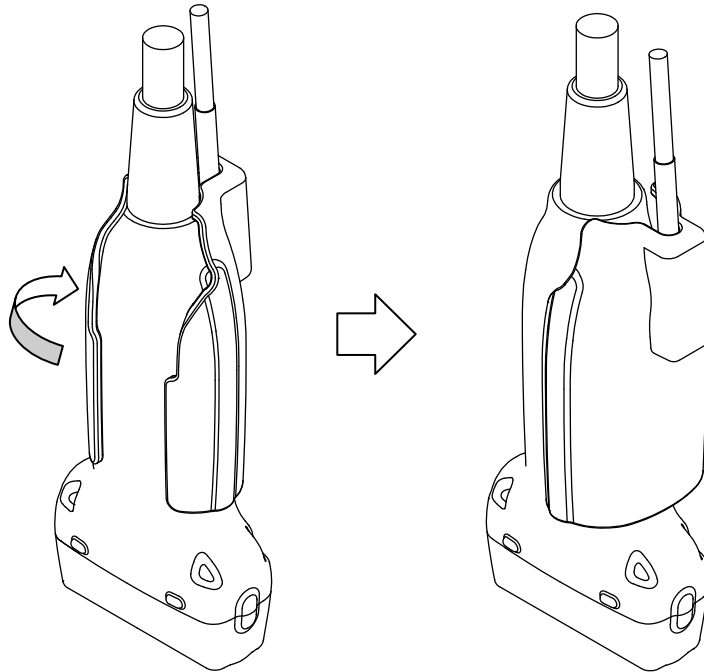

Fig. 6 How to release the Magnetic sensor attachment from the probe
- 1) Turn around the magnetic sensor attachment and release it from the probe as shown in Fig. 6.